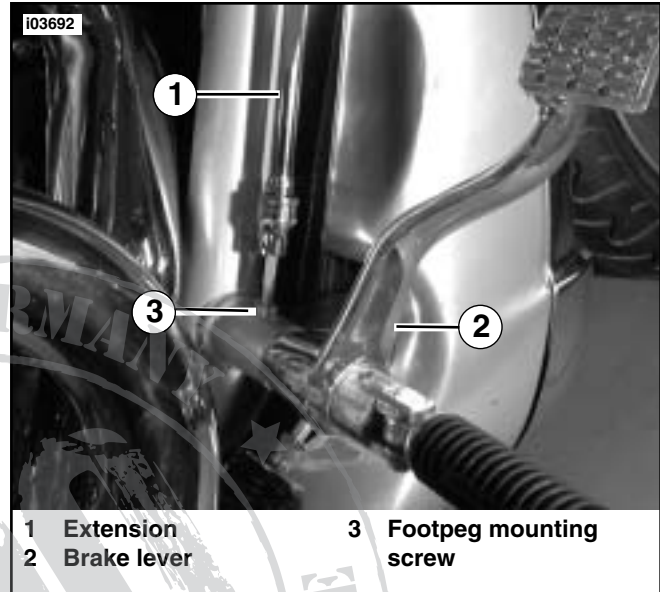

Figure 1. Remove Footpeg Mounting Screw
1. See Figure 1. On right side of motorcycle, remove screw securing footpeg mount to frame. Save screw for re-installation.